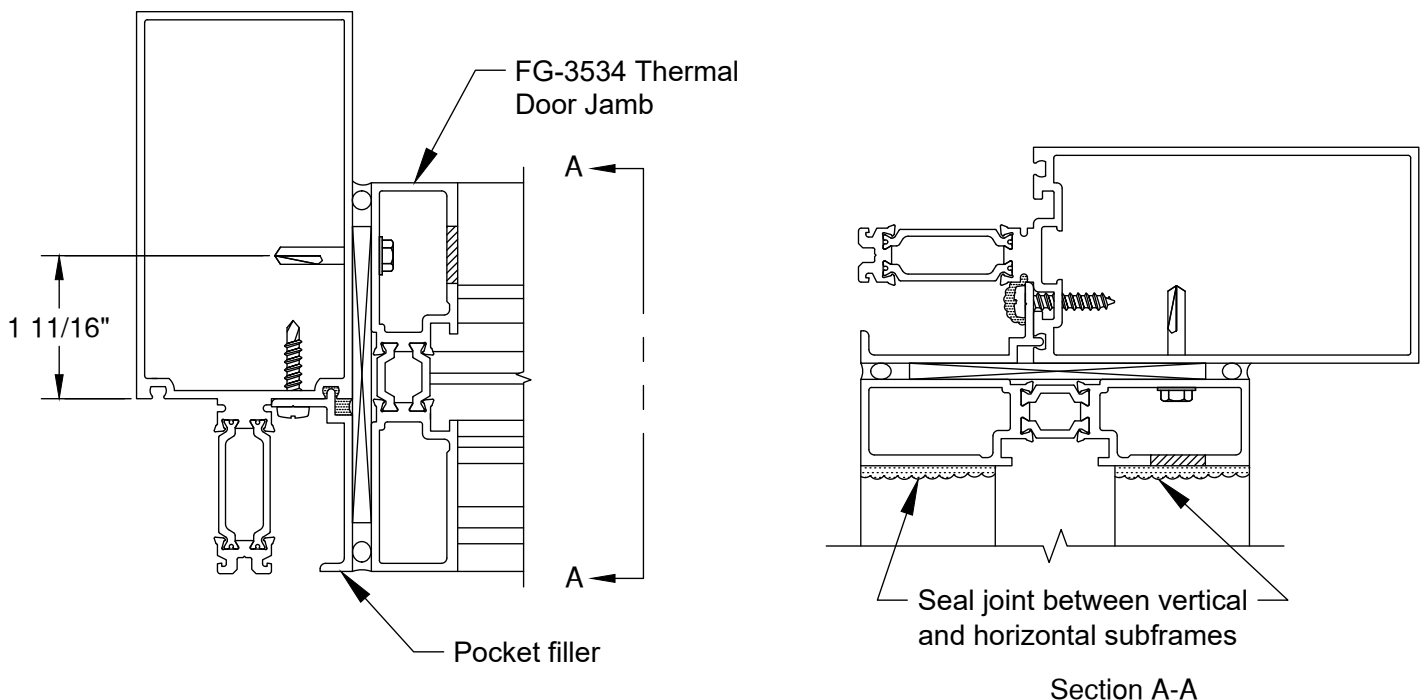

FIGURE 24
C.2.2 Install pocket filler onto curtain wall mullion. **SEE FIGURE 24.**